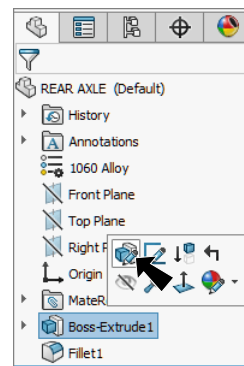

Fig. 13
- Step 1. Click **Boss-Extrude1** in the Feature Manager and click **Edit Feature**  in the Context toolbar, Fig. 13.